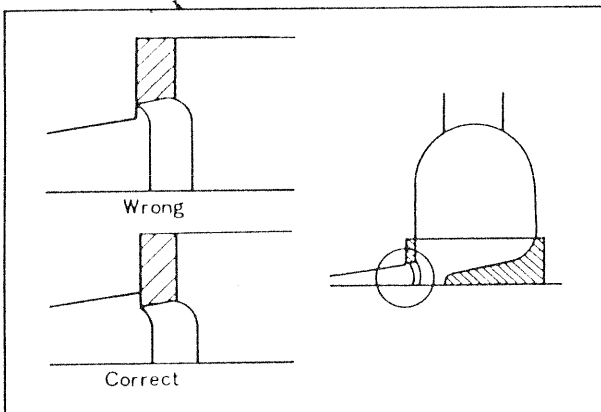

Fig. 1-14
2. Locate new insert on the cylinder head as shown in Fig. 1-14 with the welch washer which fits in a recess provided.